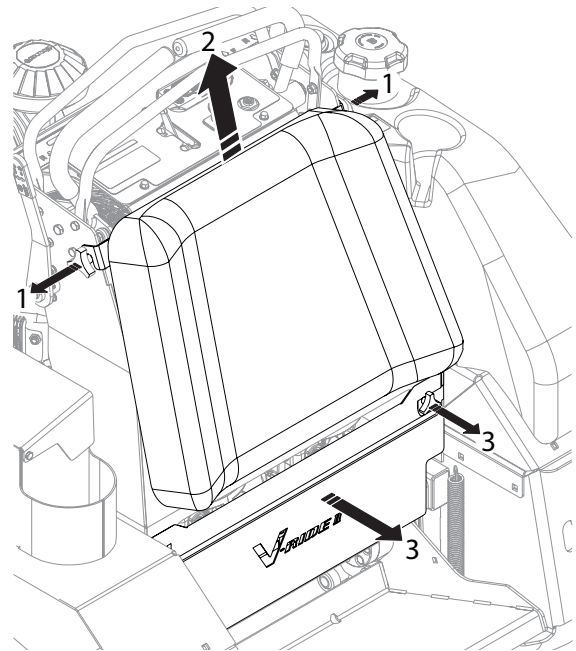

Figure 6-12. Operator Cushion and Rear Cover Removal
1. Loosen the two (2) wing nuts securing the operator cushion to the machine. See Figure 6-12.
2. Lift upward to remove the operator cushion. See Figure 6-12.
3. Remove the two (2) wing nuts securing the rear cover to the back of the machine and remove the cover. See Figure 6-12.